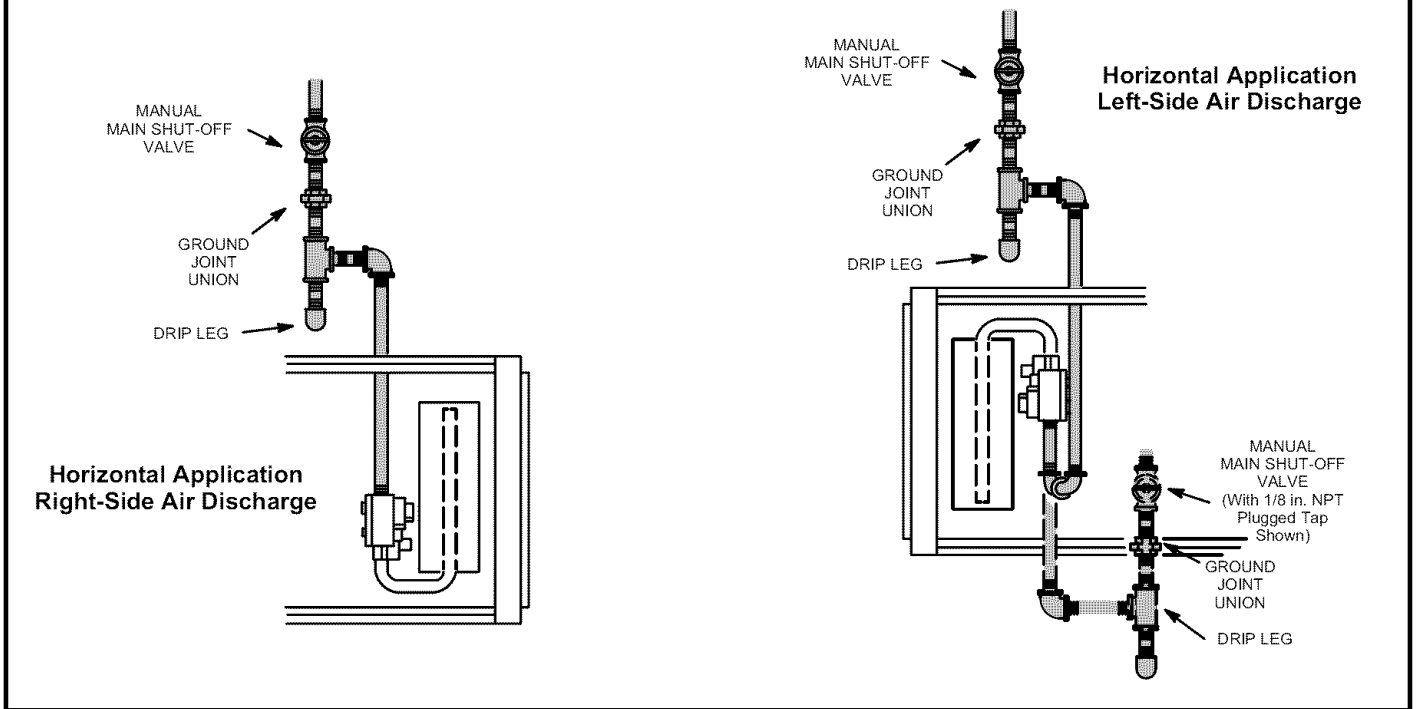

FIGURE 51
- 1 - Gas piping may be routed into the unit through either the left- or right-hand side. Supply piping enters into the gas valve from the side of the valve as shown in figure 51.
- 3 - Gas piping must not run in or through air ducts, clothes chutes, chimneys or gas vents, dumb waiters or elevator shafts. Center gas line through piping hole. Gas line should not touch side of unit. See figure 51.